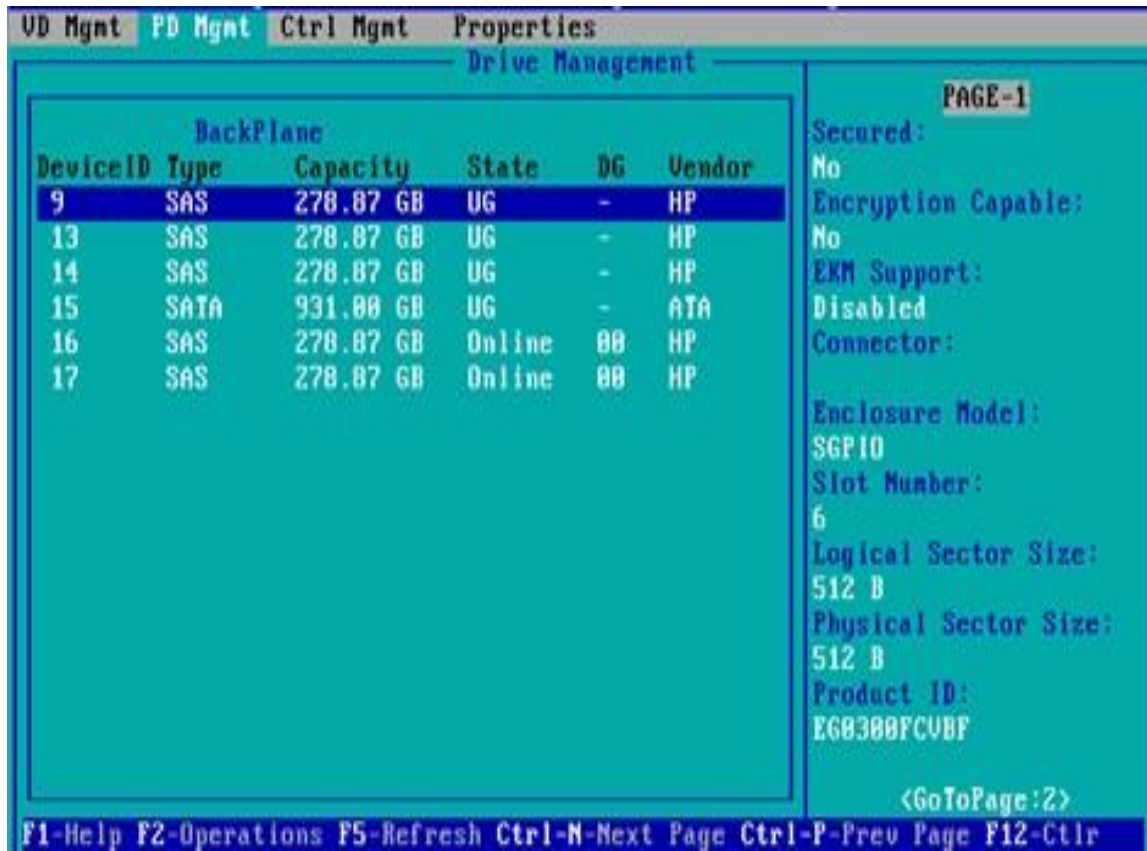

Figure 6-103
a) As shown in figure 6-103, select the physical disk to be erased on the PD MGMT interface, and press F2.